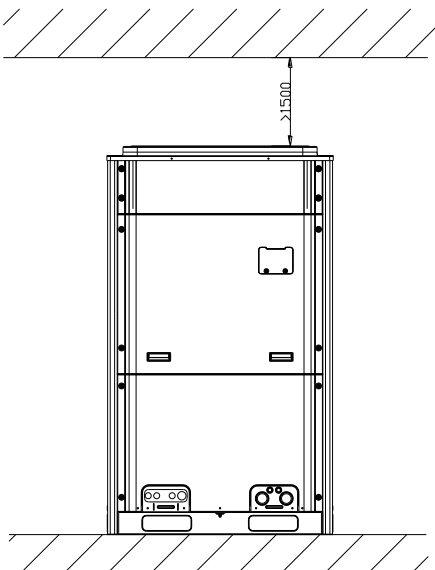

Figure 7
2. In principle, if a crown wall (obstacles for keeping out the wind) exists over the machine, a distance of at least 3000 mm should be left between the top of the machine and the crown wall. If the front, rear, left and right sides of the machine are open spaces, the distance between the top of the machine and the crown wall should be at least 1500 mm, as shown in Figure 7. If the requirement for the minimum 1500 mm cannot be met, or the spaces around the machine are not open, an air return pipe needs to be connected to maintain smooth ventilation, as shown in Figure 8.